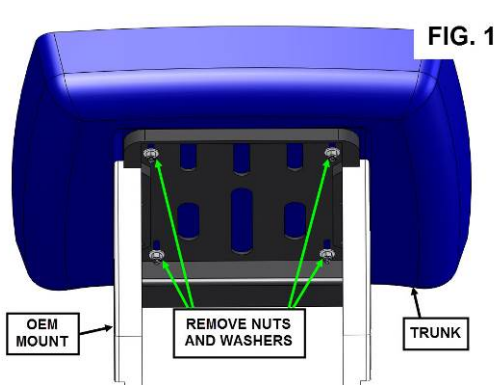

FIG. 1
2. USING A 7/16" WRENCH REMOVE THE FOUR NUTS AND WASHER THAT ARE ON THE BOTTOM SIDE OF THE TRUNK MOUNT. SEE FIG. 1.